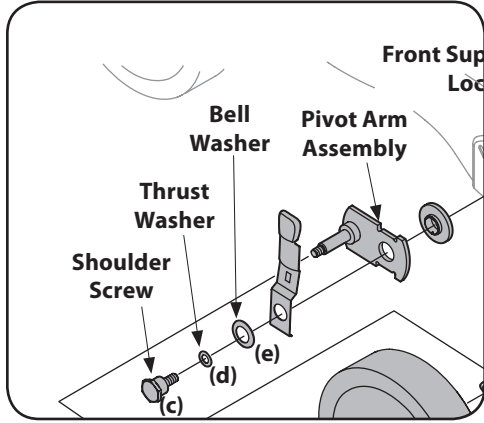

Figure 5-5
- Remove the flange lock nuts (a), front wheels, and wave washers (b) that attach to the pivot arm assemblies. See Figure 5-5.